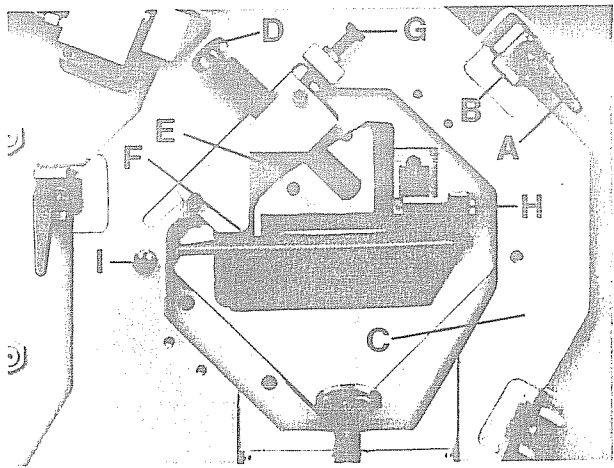

Fig. 38: Hold-down KBLH 500/700: design for PMG blades
b) KBLH 500/700: Loosen clamping lever "A", push supporting bracket "B" outwards, and tighten again. Remove hold-down plate "C" to the front (Cf. fig. 38).
(cf. fig. 38)
In case the cut will not be done at exactly right angle or 45° , adjust by means of the screws "H" (for 90°) and "I" resp., or slightly shift the pressure piece (for 45° cuts). Cf. fig. 38.